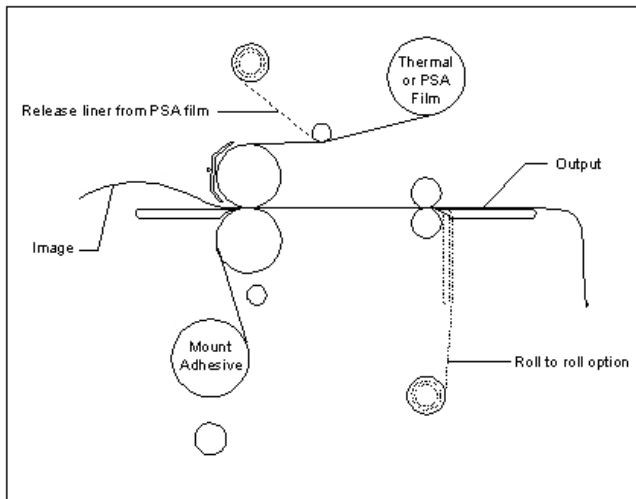

Fig 37
Tips For Creating a Decal (Figure 37)
1. Load the laminator as illustrated in Figure 37.